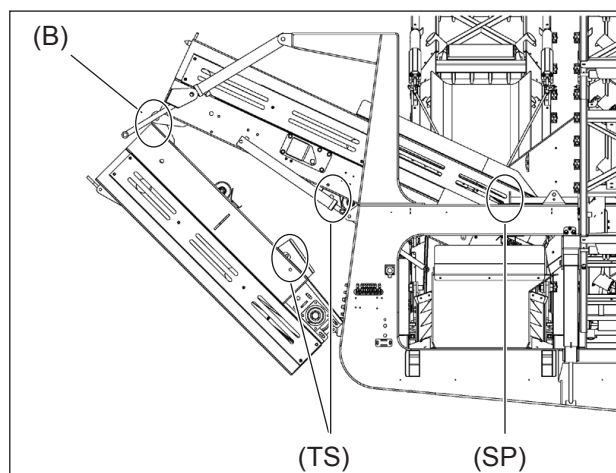

Figure 5.18 - Tail Conveyor in Folded Position
6. Fix transport stays (TS) to conveyor Ref: Figure 5.18.